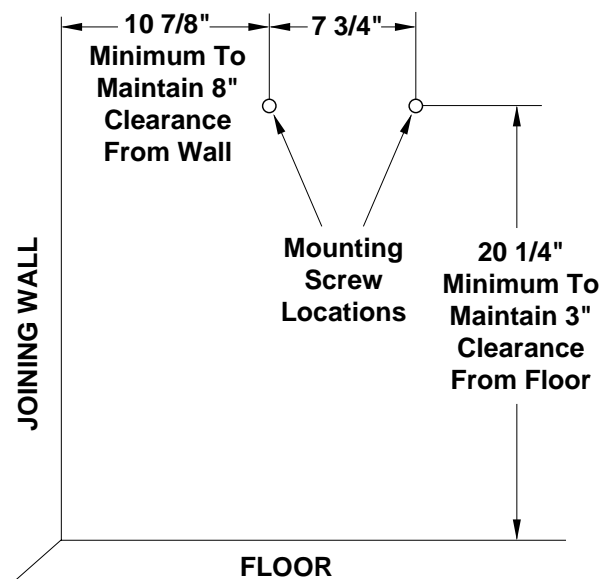

Figure 5 - Mounting Screw Locations
Maintain minimum clearances shown in Figure 5. If you can, provide greater clearances from floor and joining wall.
2. Mark two mounting screw locations on wall (see Figure 5).